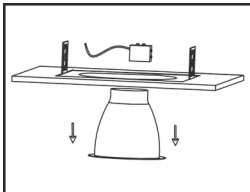

Fig. 1
- 2.) Remove the existing lamps and trim. (**Figure 1**)